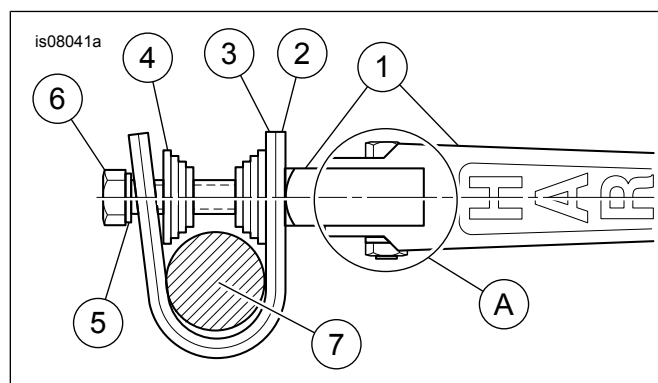

Figure 1. Service Parts
1. See Figure 1. Remove the bolt (6) and lockwasher (5) from the footpeg assembly (1). **For 1 inch (25 mm) dia. engine guards:** Place both the large clamp (2) and the small clamp (3) around the engine guard (7) as shown. Position the clamps on the straight, upright section of the guard. **For 1-1/4 inch (32 mm) dia. engine guards:** Discard the small clamp (3). Place the large clamp (2) around the engine guard (7). Position the clamp on the straight, upright section of the guard.
2. **For ALL engine guards:** Install two step spacers (4) inside the clamp on either side of the engine guard (7) as shown.
3. Put the lockwasher (5) on the bolt (6). Insert the bolt through the clamp and spacers, and thread into the footpeg assembly as shown.